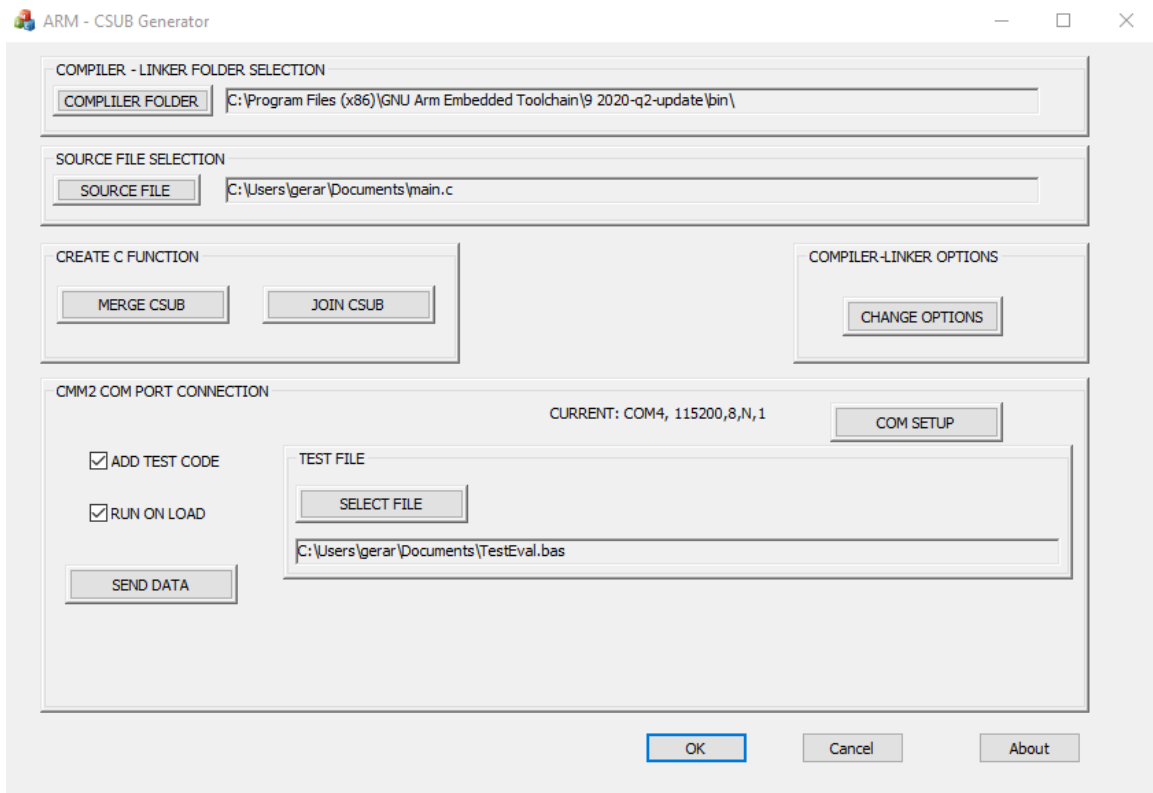

Fig 1.
3. Start CSUBGen.exe. Refer to Fig 1 below for a view of the running application GUI.